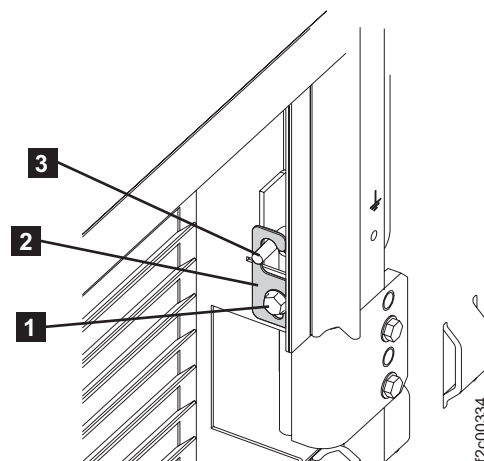

Figure 6. Removing rear left cover on Rack-1
4. Remove the left rear cover from Rack-1. Refer to Figure 6.